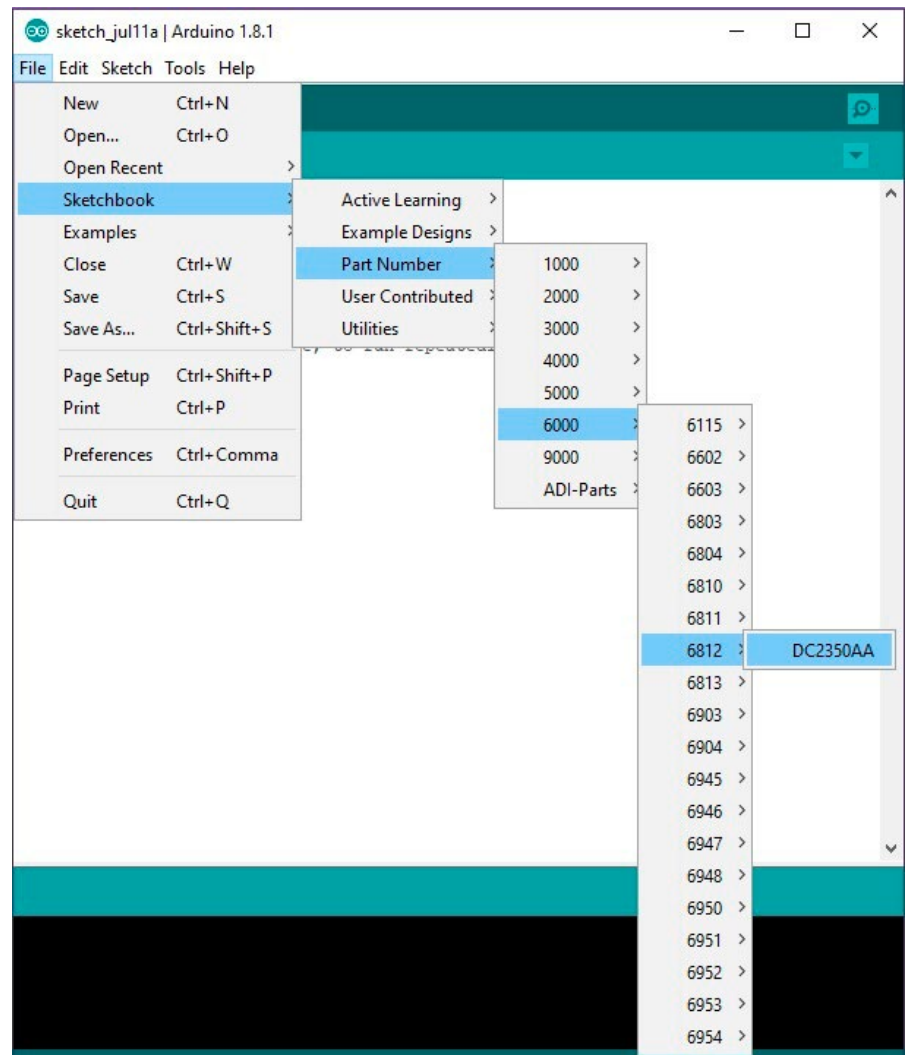

Figure 7. Selecting the LTC6812 Sketch
6. Open one of the programs or **sketches** associated with the DC3036A. In this example LTC6812 sketch will be opened. Under the **File** menu, select **Sketchbook** → **Part Number** → **6000** → **6812** → **DC2350AA** (see Figure 7).